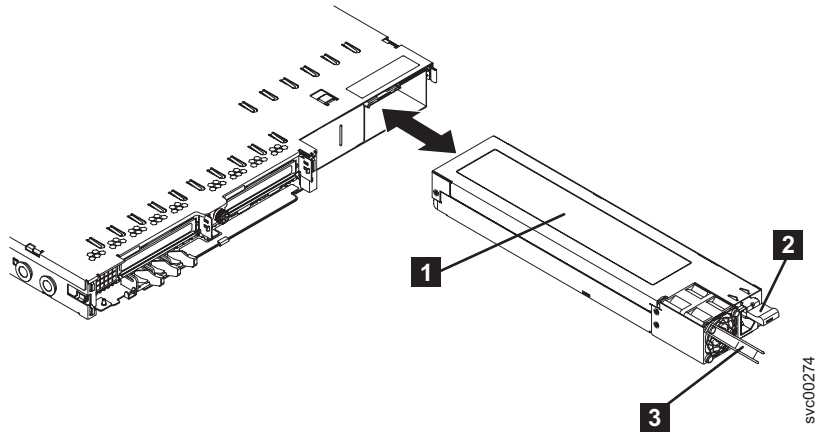

Figure 129. SAN Volume Controller 2145-8G4 power supply
1. Grasp the handle on the rear of the power supply (shown in Figure 129 on page 144) and slide the power supply forward fully into the node until it clicks in place.